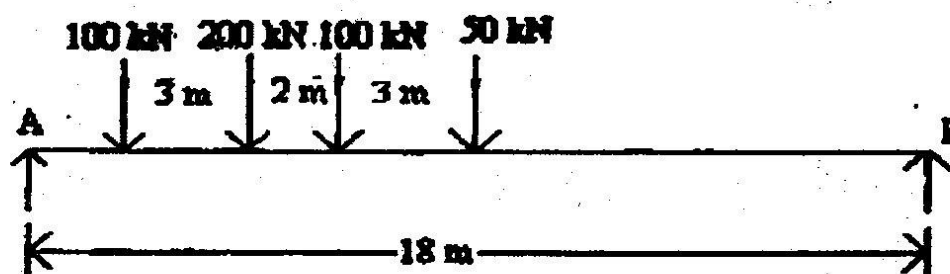

Fig 1
1. (a) A girder having a span of 18 m is simply supported at the ends. It is traversed by a train of loads as shown in Fig.1, the 50kN load lead ing. Find the maximum bending moment which can occur (i) under the 200kN load (ii) under 50kN load, using influence line diagrams. 8